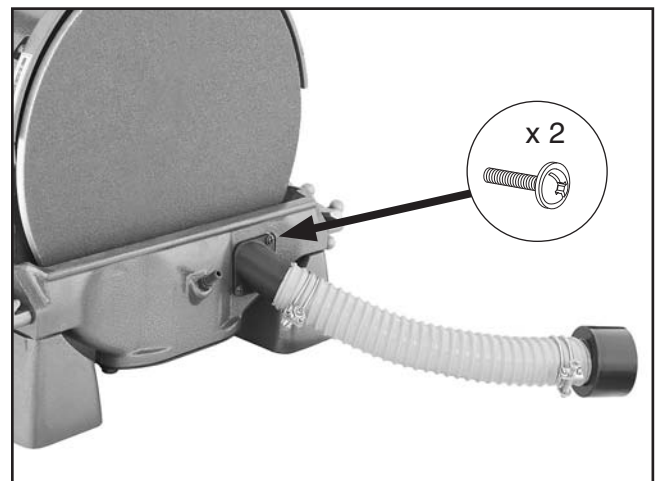

Figure 17. Sanding disc dust hose assembly attached.
- Attach the dust hose assembly to the lower disc bracket with the (2) #10-24 x $\frac{3}{8}$ " flange screws, as shown in **Figure 17**.